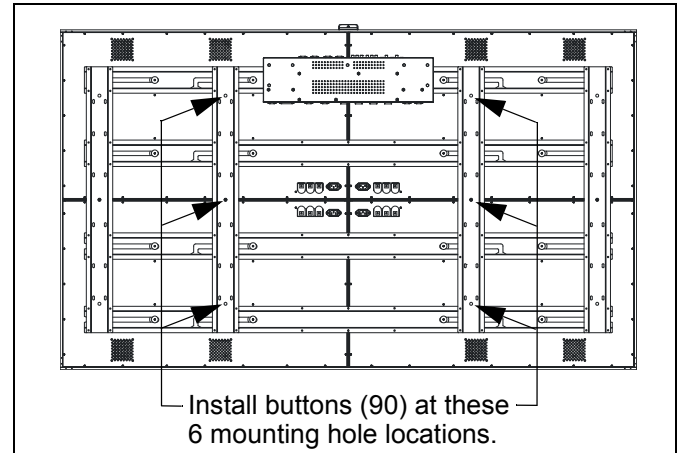
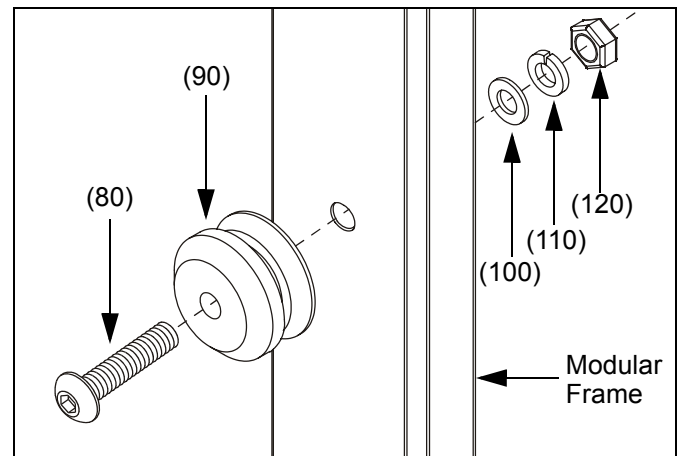

Figure 3: Modular Display Frame
Figure 4: Modular 84" Mounting Button
1. Insert screw (80) through button (90) and frame on back of modular display (See Figure 3)(See Figure 4). Using key (140) and 13mm wrench, install washer (100), washer (110), and nut (120). Tighten securely.